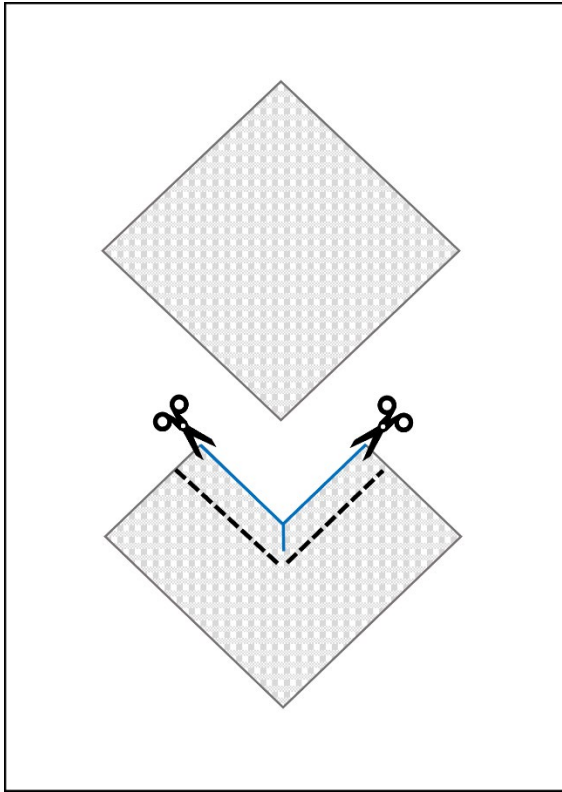
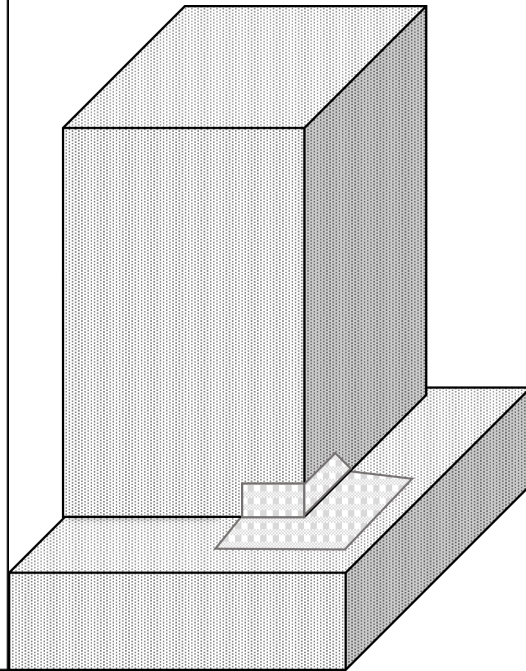

Figure 1: Outside corner cut pattern
Figure 2: Outside corner proper placement on footing
- B. First cut your outside corner pieces as shown in Figure 1, then position into membrane as shown in Figure 2. Coat overtop of corner piece with membrane. For proper coating thickness refer to Hulk WP® application instructions in this document. To cut the textile, use a sharp utility knife or shears. If using a knife, cut from the center outward.